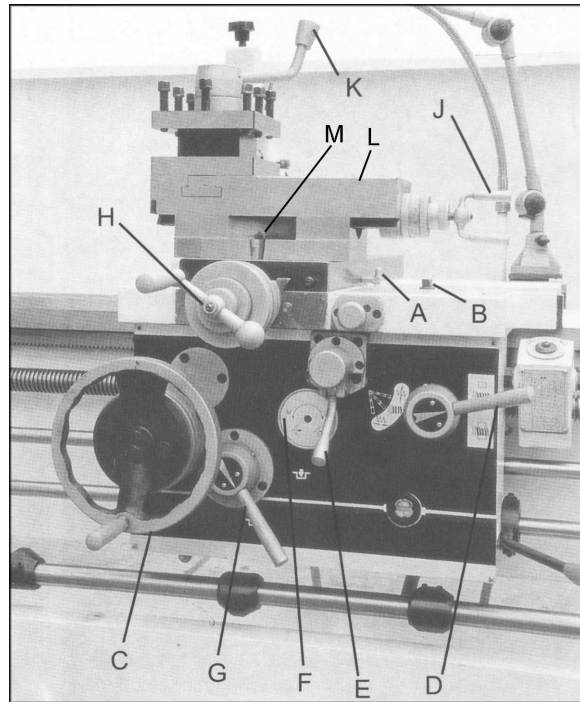

Figure 13
11. **Half Nut Lever** (D, Figure 13): Located on the front of the apron assembly. Used for threading.
12. **Feed Engage Lever** (G, Figure 13): Located in the front of the apron assembly. Pull lever up to engage. Push lever down to disengage.
13. **Adjustable Feed Clutch** (F, Figure 13): When the machine is overloaded, it can slip. Then cutting rate must be reduced. **Note:** This setting has been calibrated at the factory and should not need adjustment. If adjustment ever becomes necessary, follow the diagram on the front of the apron.
14. **Cross Traverse Handwheel** (H, Figure 13): Located above the apron assembly. Clockwise rotation moves the cross slide toward the rear of machine.
15. **Compound Rest Traverse Handle** (J, Figure 13): Located on the end of the compound slide. Rotate clockwise or counterclockwise to position.
16. **Tool Post Clamping Lever** (K, Figure 13): Located on top of the tool post. Rotate counterclockwise to loosen and clockwise to tighten.